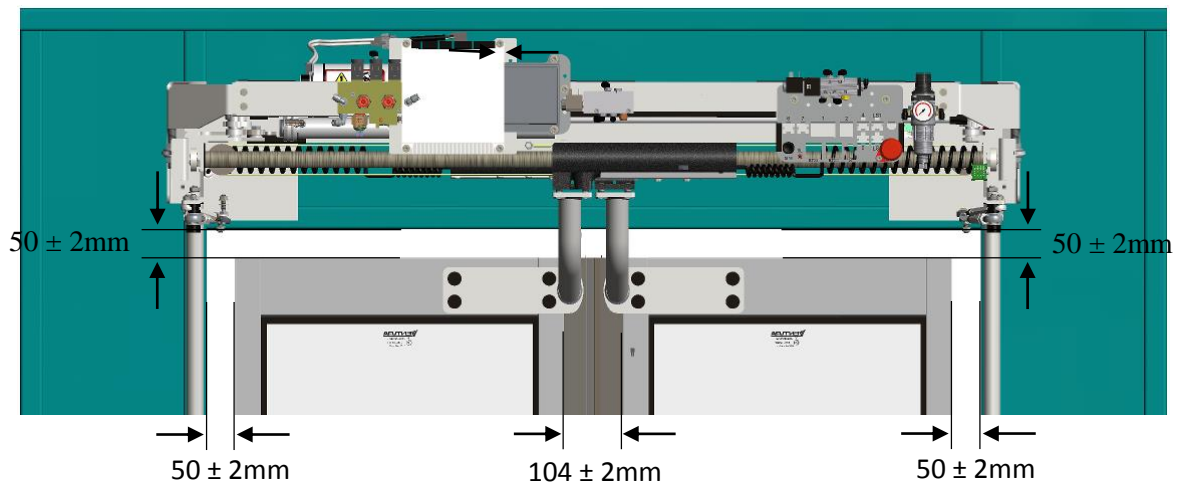

Figure 1.1: Plug sliding door and aperture
2.	When closed there should be $104\pm 2\text{mm}$ distance between the door leafs measured from the aluminum profiles of the door leafs (with pressure). See figure 1.1. Note: This setting is more important than check 1 because of the sensitive edges which are often in the rubber seals between the door leafs. Therefore this setting has priority over check 1, in case aperture dimensions deviate.